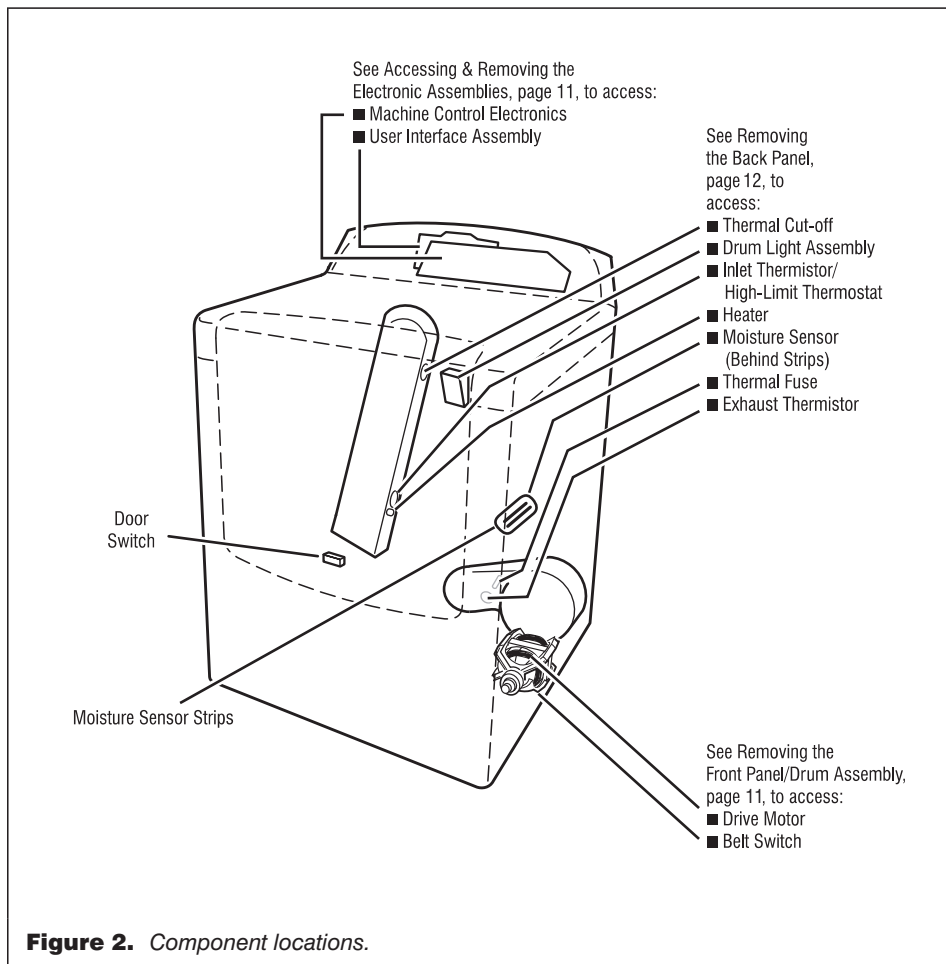
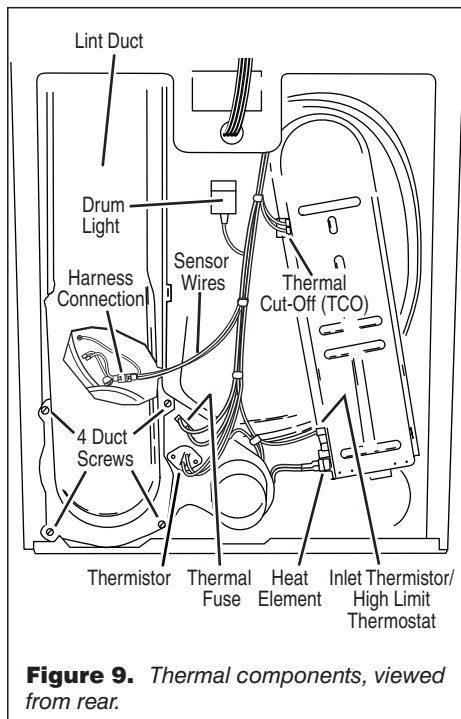

Figure 2. Component locations.
Figure 9. Thermal components, viewed from rear.
Some tests will require accessing components. See figure 2, page 6 for component locations.
Locate the components using figure 2, page 6; and figure 9, below.
- ➔ Check wire connections at the machine control electronics and thermistor. See Accessing & Removing the Electronic Assemblies, page 11; and for thermistor location, figure 9.
- Check wire connections at the machine control electronics and inlet thermistor. See Accessing & Removing the Electronics Assemblies, page 11, and for inlet thermistor location see figure 9, page 8.
- Check the resistance of the inlet thermistor. See figure 9, page 8 for location.
2. Access the thermal fuse by first removing the back panel. See Removing the Back Panel, page 12; and for thermal fuse location see figure 9, page 8.
3. Using an ohmmeter, check the continuity across the thermal cut-off. See figure 9, page 8, for location.